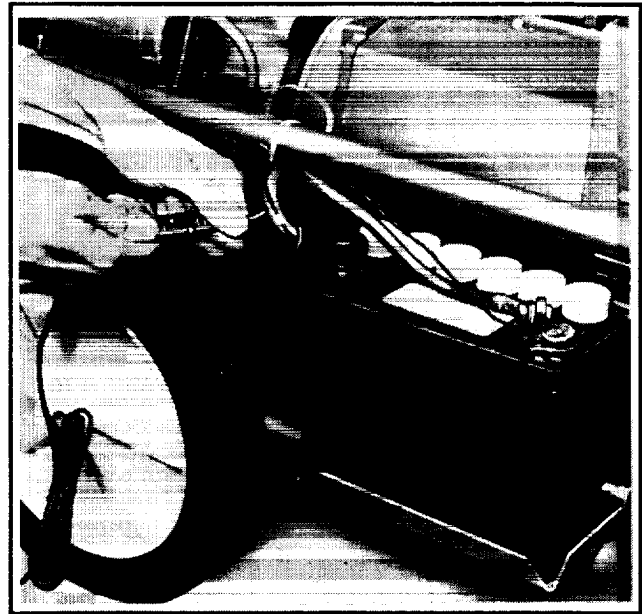

Figure 3. Attaching Connectors
4. Attach in-line connector from battery to in-line connector of battery charger plug-in module. See Figure 3.